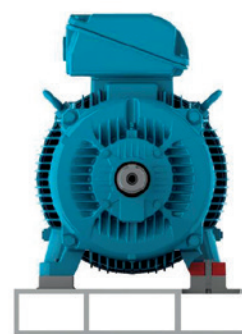

Figure 31 - Motor installed on metallic base
- Metallic bases: are generally used for small-size motors (Figure 31).